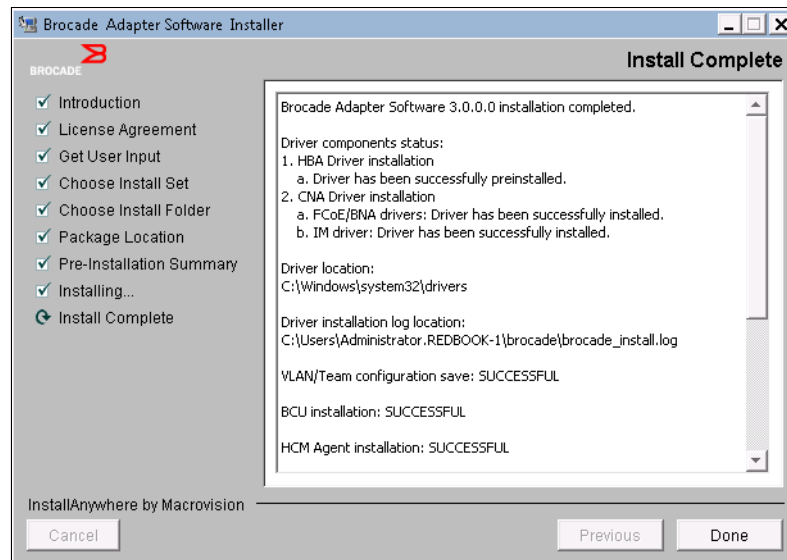

Figure 7-99 Completion panel
7. After the application finishes the installation, in the Install Complete panel (Figure 7-99), click **Done**.